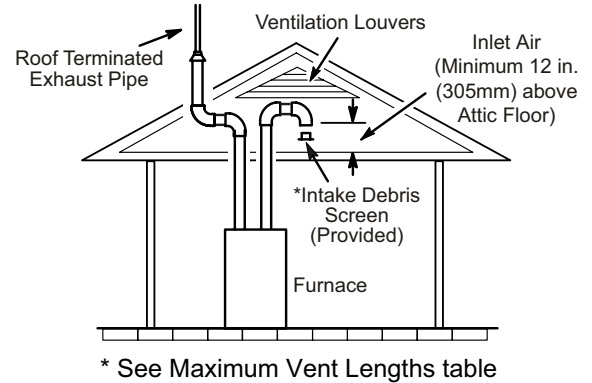
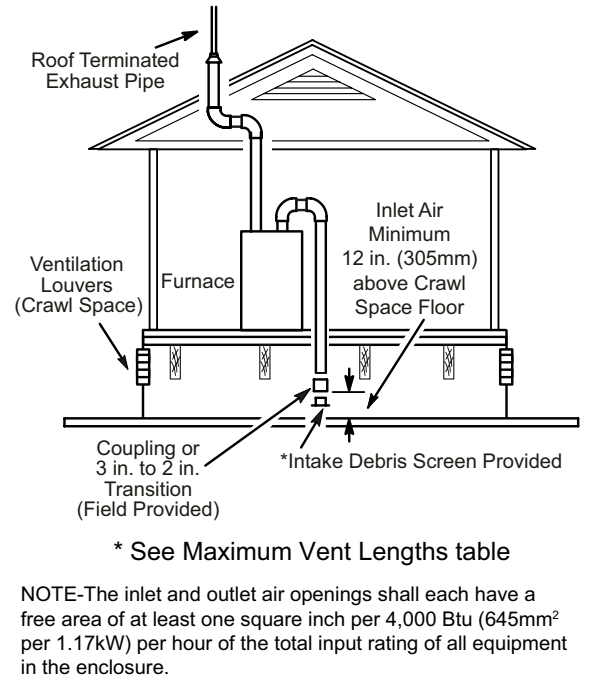

Figure 31. Equipment in Confined Space
Figure 32. Equipment in Confined Space
2. If intake air is drawn from a ventilated attic (Figure 31) or ventilated crawlspace (Figure 32) the exhaust vent length must not exceed those listed in Table 6. If 3" diameter pipe is used, reduce to 2" diameter pipe at the termination point to accommodate the debris screen.